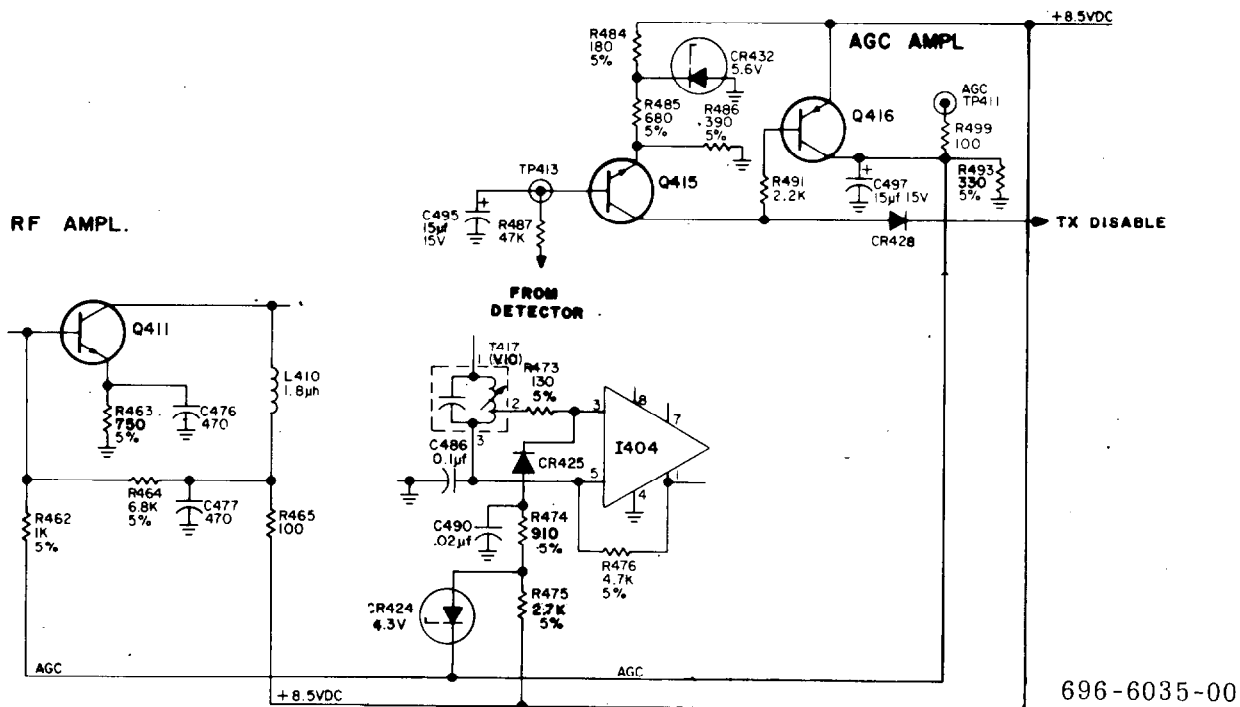

FIGURE 4-27 COMM AGC SYSTEM
4.3.2.7 AGC Amplifier (Figures 4-27, 5-52)
Crystal Y401 forms a parallel resonant circuit with the series combination of C448 and C447. The tap between C448 and C447 provides 180° phase inversion of the collector feedback signal to provide regeneration. (See Figure 4-27)